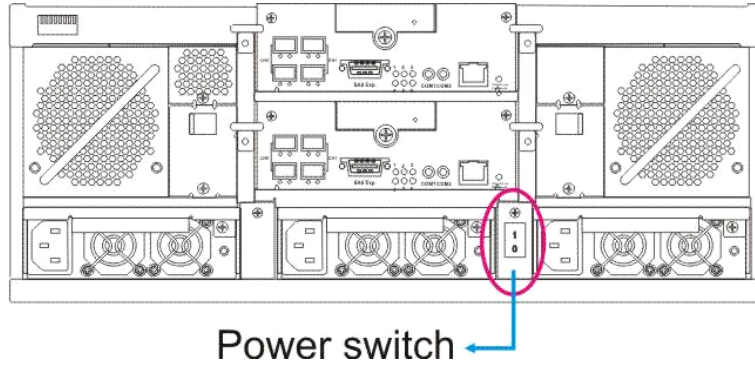

Figure 4-13: Power Switch
The subsystems should be powered on before the host computers. Turn the power switch on. (See *Figure 4-13*) One (1) power switch that controls all PSUs is shielded by an anti-tamper plastic cover.